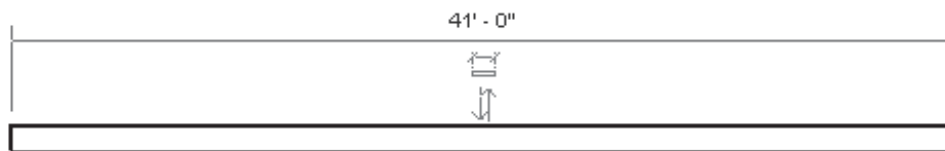

Figure 3-29 The sketched horizontal wall with its controls
5. Move the cursor to the right until the temporary dimension shows the value to be more than 40'0". Click at this location as the endpoint of the wall segment. The created wall shows its temporary dimension, a dimension symbol, and a twin-arrow symbol, as shown in Figure 3-29.